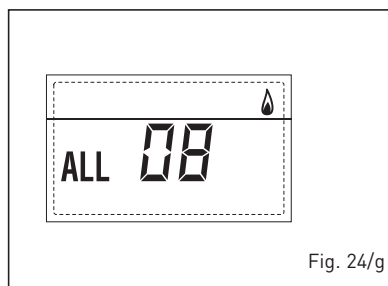

Fig. 24/g
– **AUXILIARY SENSOR ANOMALY ALARM 10 (fig. 24/l)**